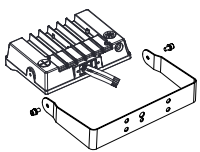

Fig 8.1
8.1 install slip fitter mount (AM) through york mount (FM) supporter (suitable for 15W-150W)
- Step 1: Pass the core wire through the hole of the FM support, and then tighten hexagon socket screw, and then Figure 8.1